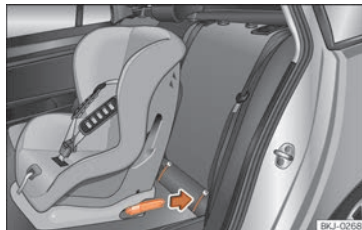

Fig. 38 Rear seats: fitting a child seat with the ISOFIX system.
- Press the child seat onto the ISOFIX or iSize retaining rings until it is heard to engage securely »» **Fig. 38**. If the child seat is equipped